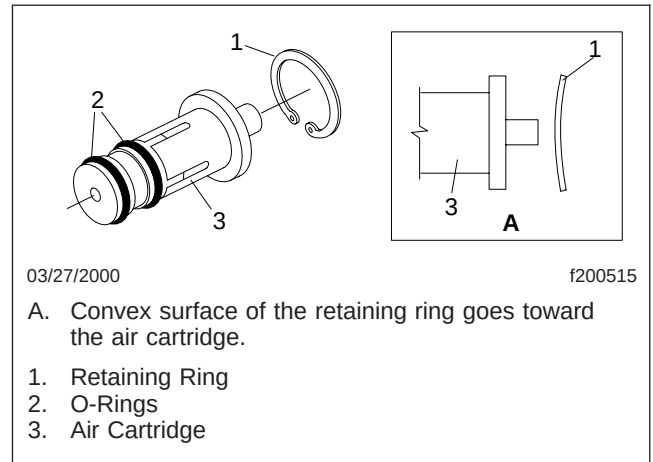

Fig. 13, Installing the Air Cartridge Retaining Ring
3. Apply O-ring lubricant from the kit to the outside O-rings of the new air cartridge assembly. See Fig. 13.
5. Install the retaining ring, making sure the convex surface of the ring is toward the air cartridge. See Fig. 13.